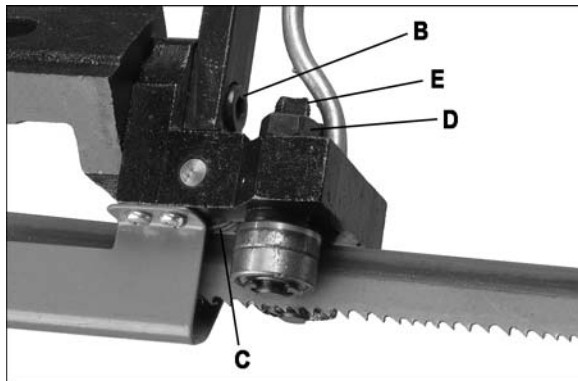
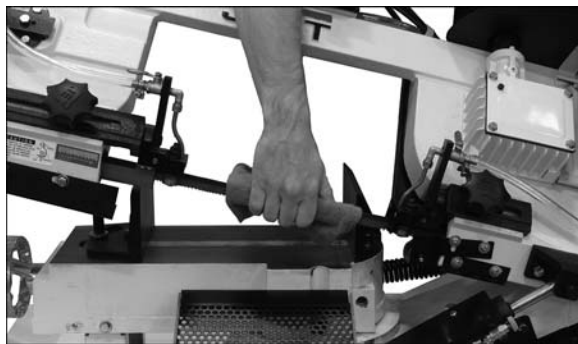

Figure 26
Figure 27
3. Loosen socket head cap screw (B, Figure 26) and adjust guide assembly until back roller bearing (C) is slightly contacting back edge of blade.
4. Loosen nut (D) and rotate eccentric shaft (E) to adjust side bearing until bearing just touches side of blade. Do not pinch the blade.
5. Blade should still move up and down freely when grasped as in Figure 27. Make sure blade teeth do not interfere with guide bearings.
6. Tighten nut (C).